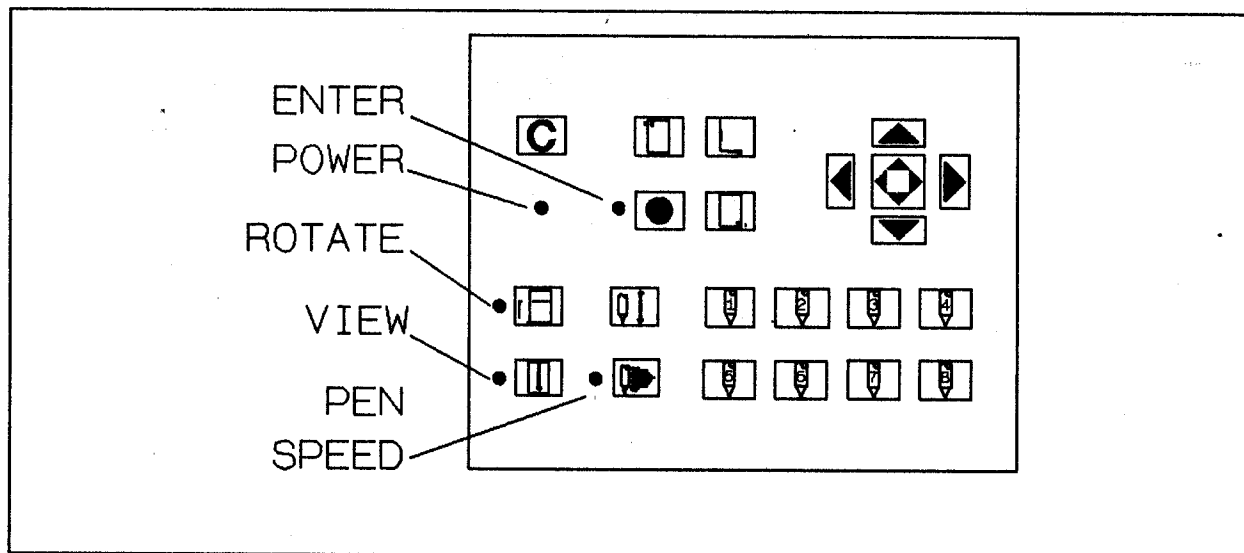

Figure 8-1. Front Panel LEDs
8-10. When ac line voltage to the plotter is turned ON (I) a series of built-in tests are automatically performed to verify proper plotter operation. The test sequence will run either to completion, at which time normal plotter operation will begin, or to an error condition. An error will cause the test to stop, which prevents normal plotter operation. The front panel LEDs will display failure information. The LEDs are illustrated in Figure 8-1. An error condition may be displayed either by